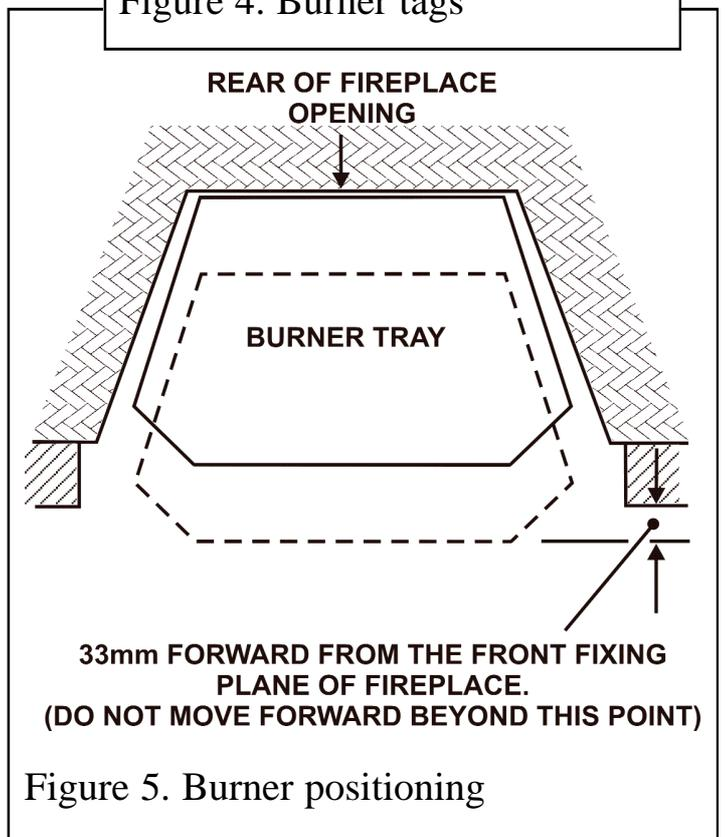

Figure 5. Burner positioning
- Place the burner unit centrally within the fireplace opening. Position the burner to the rear of the opening, this may be moved forward providing the front of the burner tray does not protrude beyond the front plane of the fireplace opening by more than 33mm (See figure 5).